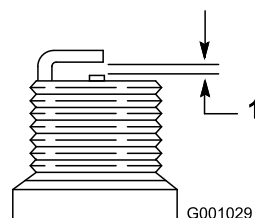

Figure 39
4. Set the gap between the electrodes on a new spark plug at 0.76 mm (0.030 inch) as shown in Figure 39.